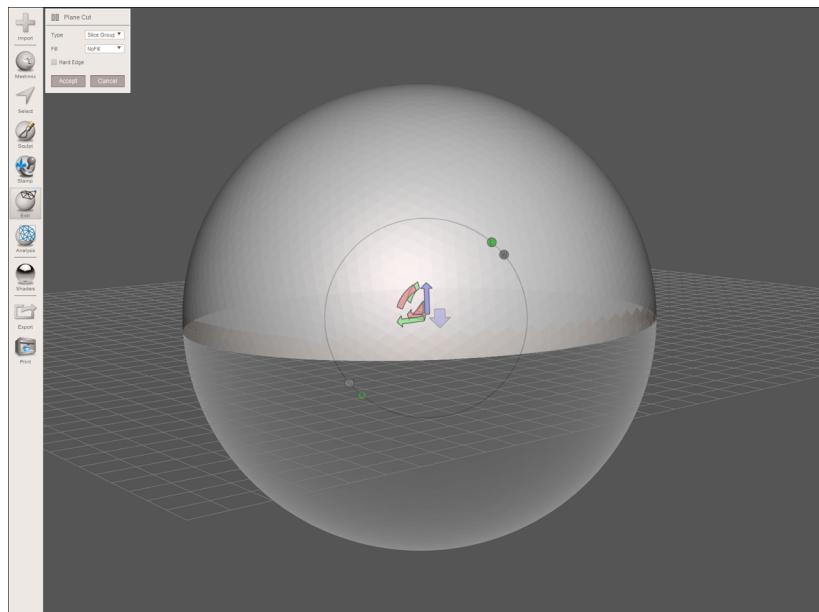

Figure 10-14. The *Plane Cut* pop-up window from the *Edit* menu option
1. Start by segmenting the sphere a few times. (You'll discover why later on.) Click the Edit button on the lefthand menu and you will see a Plane Cut pop-up window, as shown in Figure 10-14.
You will see a ball that is gray on the top side and colored on the other, as shown in Figure 10-14. The “Slice Groups” command splits the sphere into two separate “FaceGroups.” FaceGroups are simply areas of the mesh that allow you to